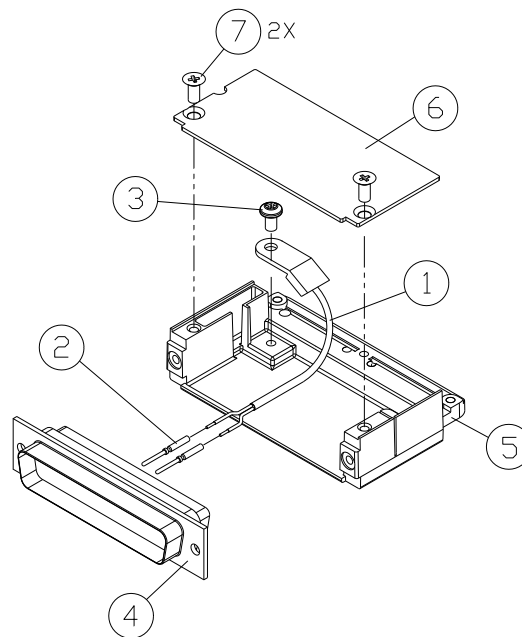

Figure 6-3. GEA 71 Backshell Thermocouple Assembly
1. Crimp pins (item 2) onto each of the thermocouples wires (item 1). Make sure the pre-stripped wire length is 1/8" before you crimp.
2. Insert the newly crimped pins and wires into the appropriate connector housing location (item 6). Place the thermocouple body (item 1) onto the backshell boss (item 5). Place the thermocouple as shown in Figure 6-3 (the wires exit towards the bottom of the backshell).
3. Tightly fasten the thermocouple to the backshell using the screw that is provided (item 6).
4. Fasten the cover (item 6) to the backshell using the screw that is provided (item 7).